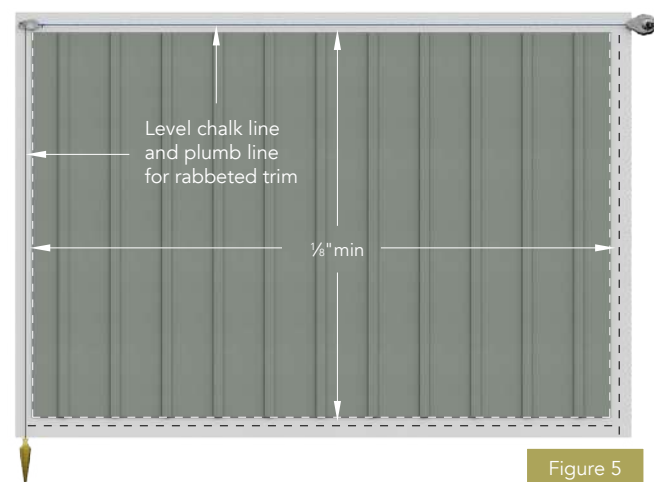

Figure 3
- Everlast 2-piece Perimeter Trim and T-Moulding require the Trim Receiver to be installed prior to the Board & Batten siding. The  $1\frac{1}{2}$ " Perimeter Trim cover and/or T-Moulding cover will be installed after siding installation is complete (Figure 3).